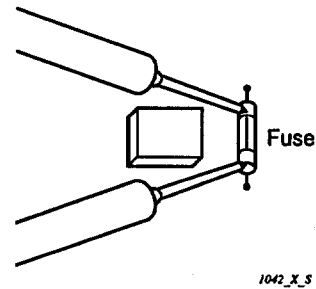

Fig. 12
- Check for continuity using a multimeter as shown in Fig. 12.